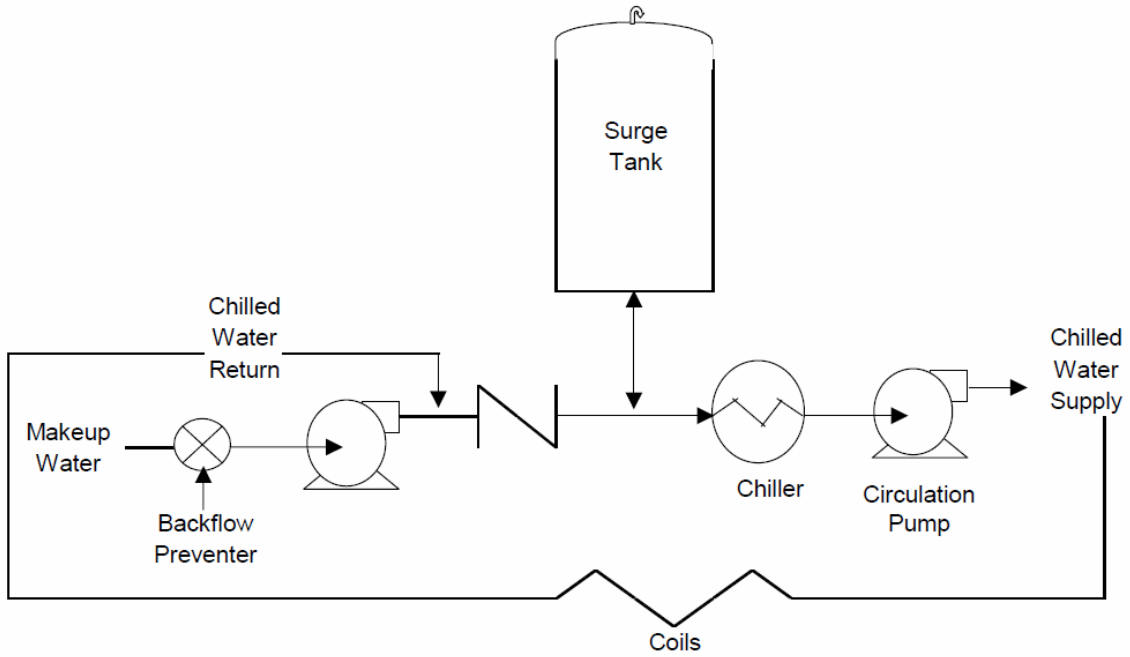

Figure 2
1.1.2 DESCRIPTION OF HOT WATER SYSTEMS. A typical hot water (hydronic) heating system is similar in composition to the closed cooling water system shown in Figure 2, except that a fired or non-fired heat exchanger is used rather than a chiller. Hot water boilers (fired and unfired) differ from steam boilers described in Chapter 3 because hot water boilers:
1.2.1 CLOSED CHILLED WATER SYSTEMS. Closed chilled water systems circulate water that is cooled by refrigeration equipment. Water temperature ranges typically vary between 4 to 13 °C (40 to 55 °F). A typical chilled water system is depicted in Figure 2. Chilled water systems can have large storage capacity (3785 cubic meters [1,000,000 gallons] or higher). Chillers are shown in Figure 3.